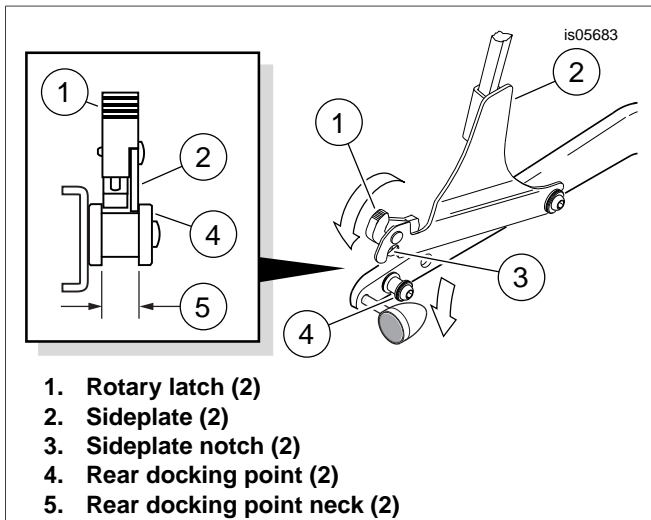

Figure 3. Lower Rear Notches Onto Rear Docking Points
4. See Figure 3. Position the rotary latches (1) over the rear docking points (4). Pull the rotary latches (1) back to their rearmost position as shown.